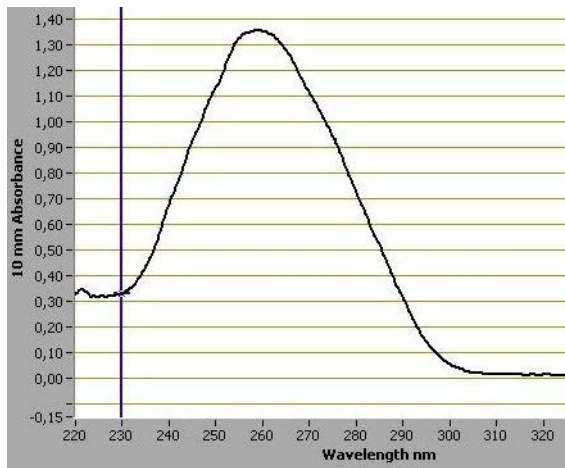

Figure 4 Typical spectrum of pure DNA
- 4 Record the A_{260}/A_{280} and A_{260}/A_{230} ratios. Scanning the absorbance from 220-320 nm will show whether contaminants exist that affect absorbance at 260 nm. Check the absorbance scans for a peak at 260 nm and an overall smooth shape as shown in **Figure 4**. The ideal 260/230 ratio for pure DNA is >1.8. High-quality gDNA samples have an A_{260}/A_{280} ratio of 1.8 to 2.0, which indicates the absence of contaminating proteins.